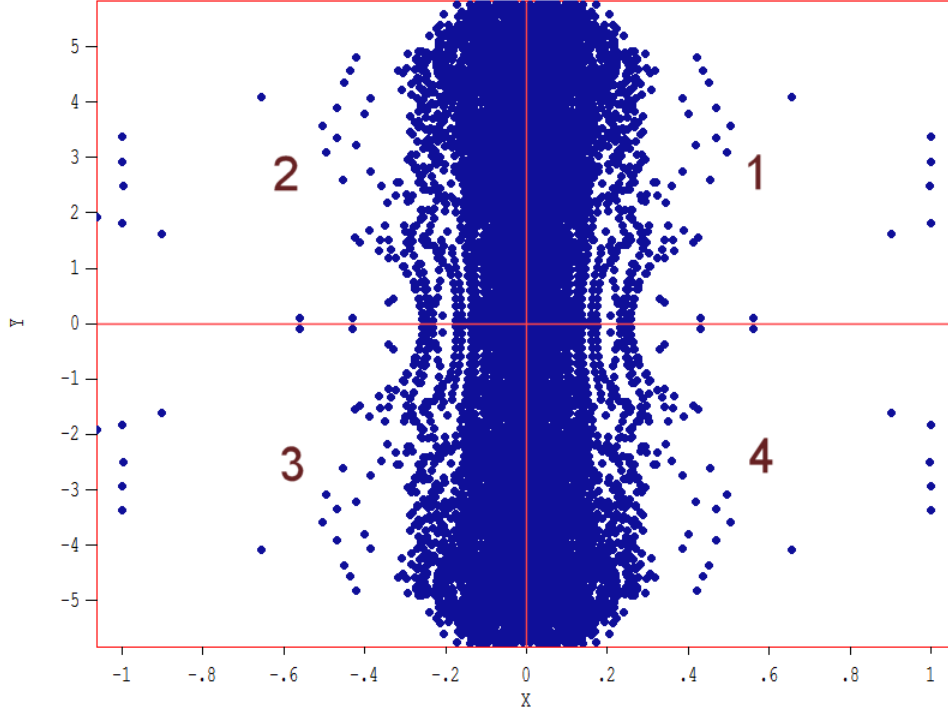

Figure 19: Mirroring a three-dimensional beam, definition of quadrants. The view is taken from the positive direction of the reference axis.
Figure 19 shows the quadrants for three-dimensional distributions relative to the reference axis. In a right-handed coordinate system, the horizontal and vertical coordinates in the graph are y - z for reference axis x , z - x for y and x - y for z . Use the check boxes in the dialog to show which quadrants should be included in the output PRT file. The default is to include all quadrants. The type of transformation depends on the choice of quadrants:
- If all quadrants are checked, then a particle in any quadrant is replicated in the other three quadrants. The most common application is to transform a distribution in Quadrant 1 so that it fills all four quadrants symmetrically (Fig. 19).